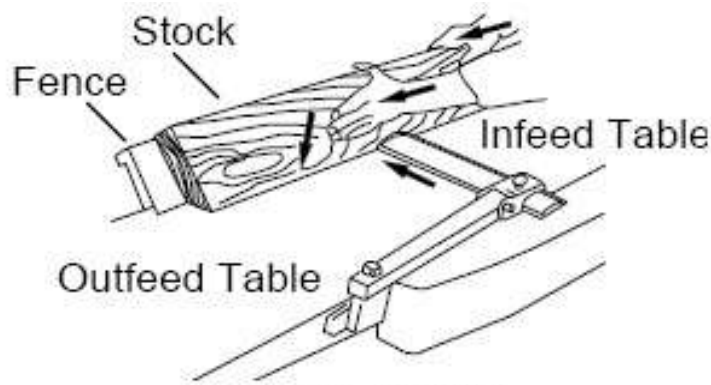

Figure 21 – Beveling
5. Feed the stock through the cutterhead, making sure the face of the stock is completely flat against the fence and the edge is making solid contact on the infeed and outfeed tables (Figure 21).